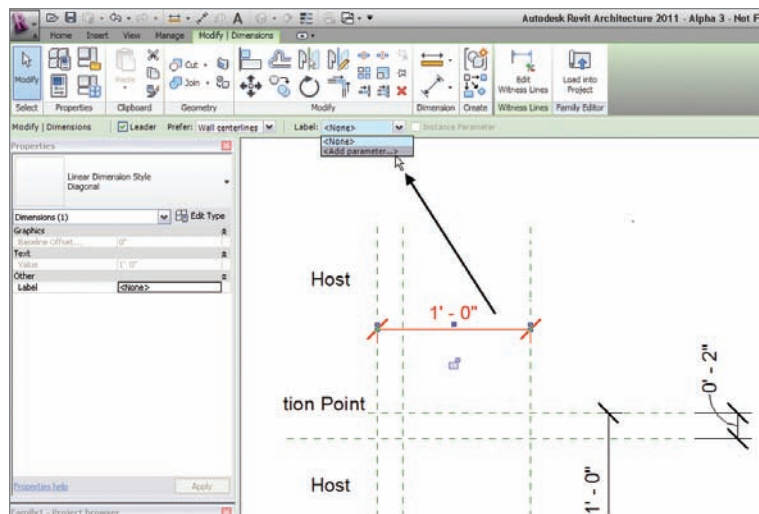

FIGURE 17.6 Choosing Add Parameter on the Options bar
2. On the Options bar, click the Label field and choose Add Parameter (see Figure 17.6).